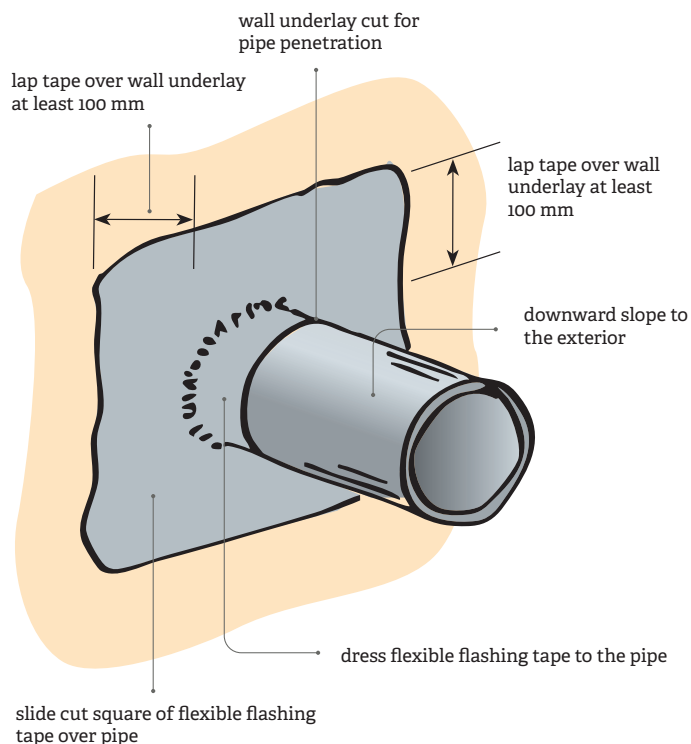

Figure 1: Penetration through wall underlay from E2/AS1 details.
- Construct the penetration. Avoid cutting oversized holes – filling a large gap around a pipe with sealant is not a good idea. The pipe should run slightly downhill from interior to exterior so water that gets in can drain out (see Acceptable Solution E2/AS1 4th edition 9.1.8.3 and Figure 9.1.8.3A). Seal the pipe against the underlay with flexible flashing tape for at least 100 mm and to the pipe for at least 25 mm (Figure 1). Proprietary seals (which some manufacturers call grommets) in different sizes are also available. Use a rigid sleeve if conduit will be installed later.